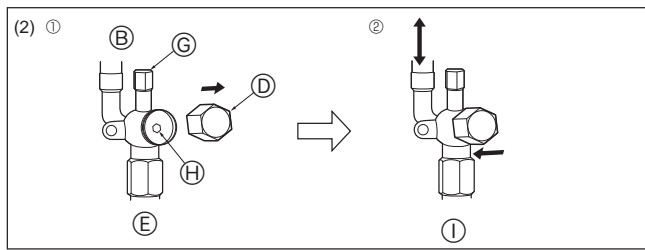

Fig. 4-7
(2) Liquid side (Fig. 4-7)
- ① Remove the cap and turn the valve rod counterclockwise as far as it will go with the use of a 4 mm [5/32 inch] hexagonal wrench. Stop turning when it hits the stopper.